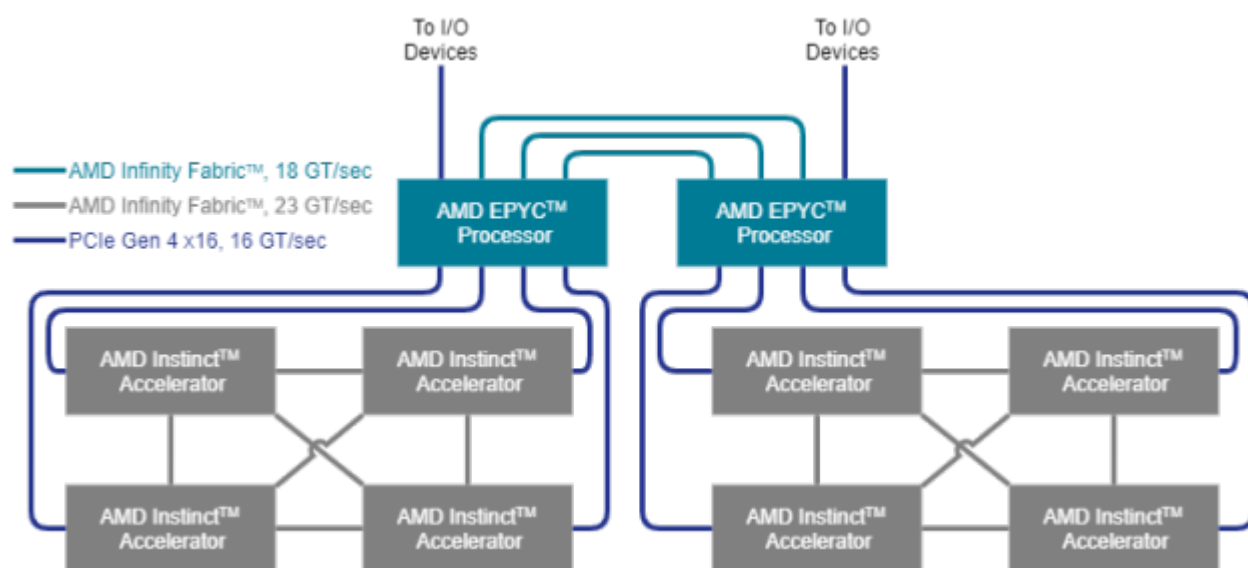
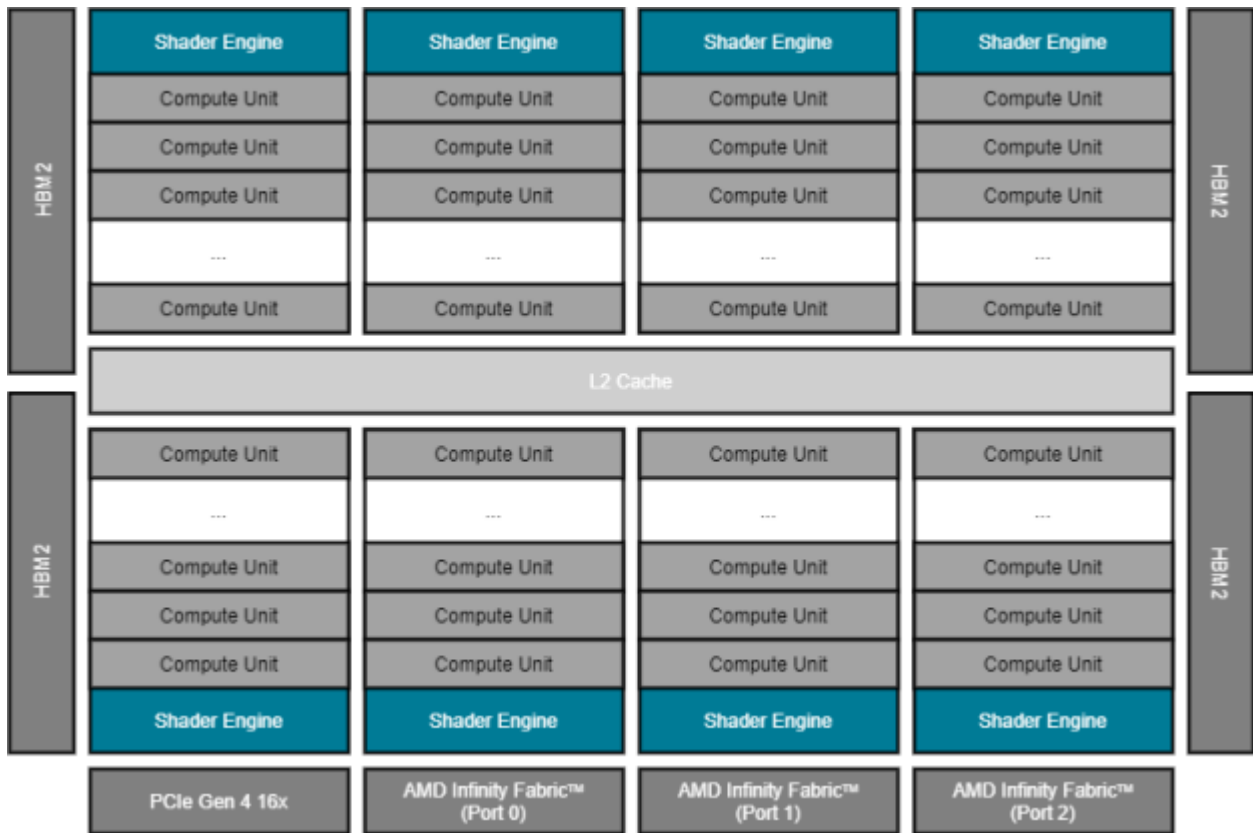

Fig. 26.4: Structure of a single GCD in the AMD Instinct MI250 accelerator.
Fig. 26.5: Structure of the AMD Instinct accelerator (MI100 generation).
Fig. 26.4 shows the node-level architecture of a system that comprises two AMD EPYC™ processors and (up to) eight AMD Instinct™ accelerators. The two EPYC processors are connected to each other with the AMD Infinity™ fabric which provides a high-bandwidth (up to 18 GT/sec) and coherent links such that each processor can access the available node memory as a single shared-memory domain in a non-uniform memory architecture (NUMA) fashion. In a 2P, or dual-socket, configuration, three AMD Infinity™ fabric links are available to connect the processors plus one PCIe Gen 4 x16 link per processor can attach additional I/O devices such as the host adapters for the network fabric.
Fig. 26.5 shows the AMD Instinct accelerator with its PCIe Gen 4 x16 link (16 GT/sec, at the bottom) that connects the GPU to (one of) the host processor(s). It also shows the three AMD Infinity Fabric ports that provide high-speed links (23 GT/sec, also at the bottom) to the other GPUs of the local hive as shown in Fig. 26.4.
The execution units of the GPU are depicted in Fig. 26.5 as Compute Units (CU). There are a total 120 compute units that are physically organized into eight Shader Engines (SE) with fifteen compute units per shader engine. Each compute unit is further sub-divided into four SIMD units that process SIMD instructions of 16 data elements per instruction. This enables the CU to process 64 data elements (a so-called 'wavefront') at a peak clock frequency of 1.5 GHz. Therefore, the theoretical maximum FP64 peak performance is 11.5 TFLOPS (4 [SIMD units] x 16 [elements per instruction] x 120 [CU] x 1.5 [GHz]).